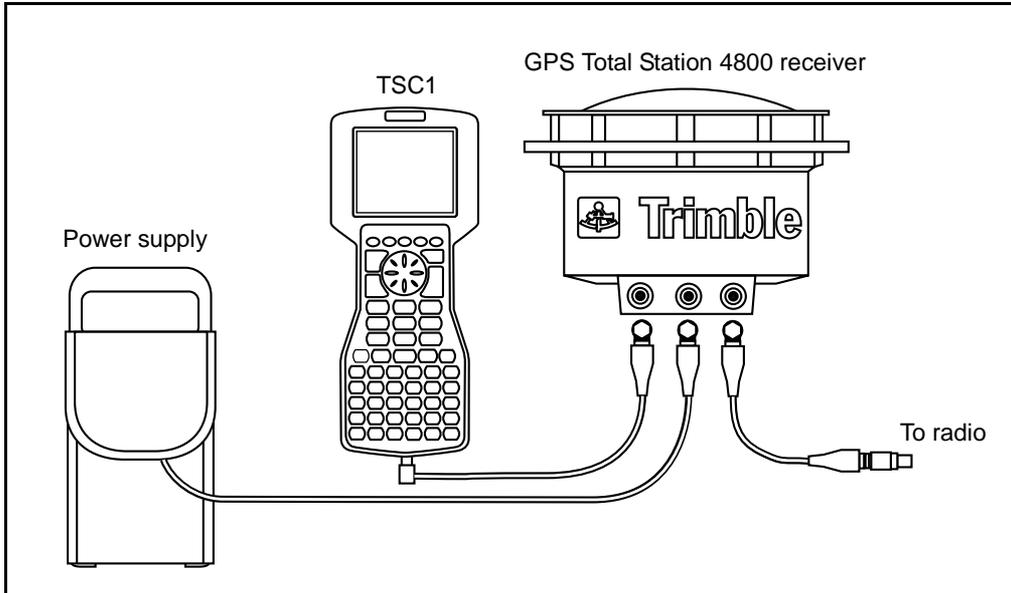

Figure 11.2 Real-time configuration using a GPS Total Station 4800 receiver (external radio)
To assemble the base receiver hardware for a real-time survey using a GPS Total Station 4800 receiver, see Figure 11.2. Then do the following:
Figure 11.2 shows how to set up the base receiver for a real-time survey using a GPS Total Station 4800 receiver.
1. Connect the TSC1 data collector, receiver, power, and radio. See Figure 11.2 on page 285, Figure D.1 on page 604, Figure 12.1 on page 307, or Figure 12.3 on page 311 (depending on the equipment).